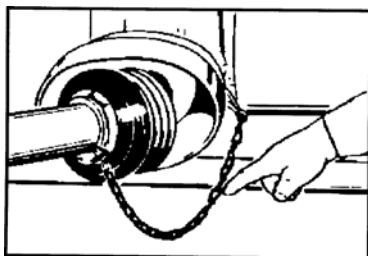

Fig. 6
5. Hook the drive shaft safety chains to a fixed part on the tractor and the implement. Fig.6)